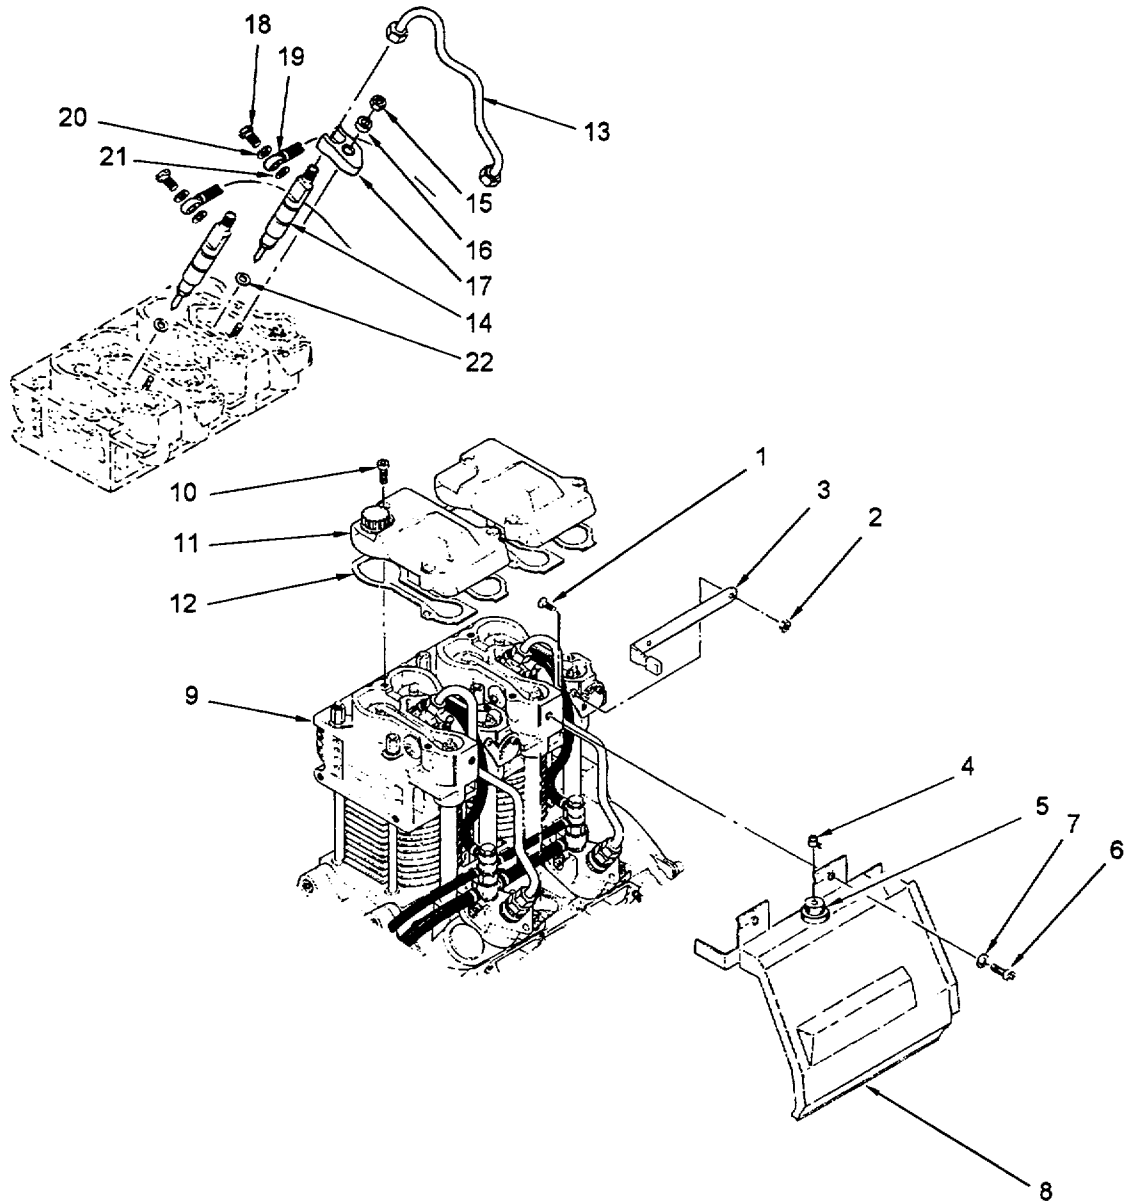
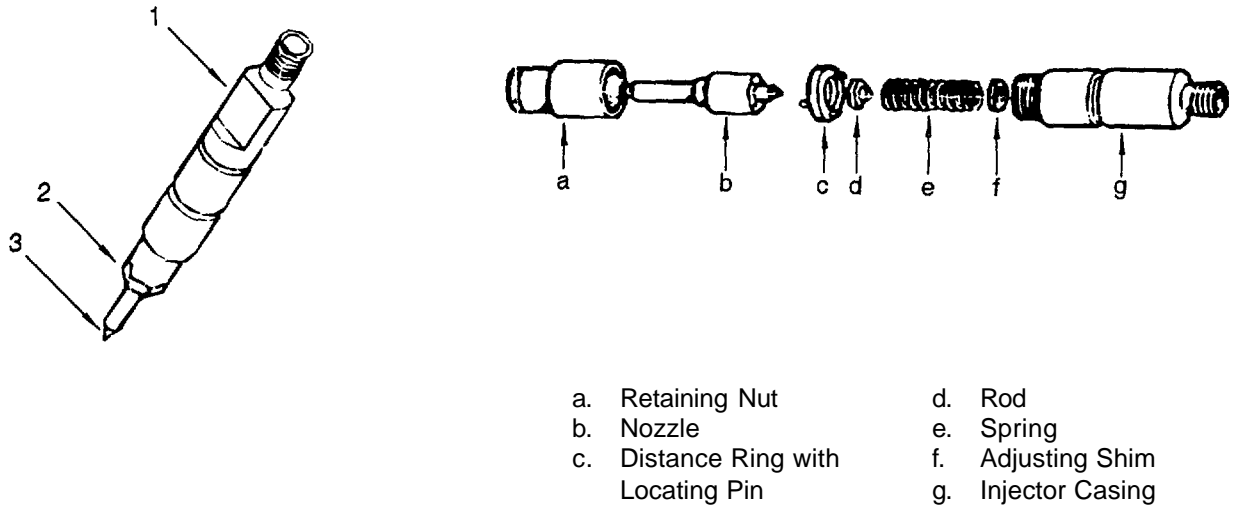

Figure 4-19. Fuel Injector Removal
Figure 4-20. Fuel Injector Nozzle Cleaning
- a. Removal. (Refer to figure 4-19.)
- (1) Remove screws (1) and nuts (2) from decompression lever (3).
- (2) Remove cable clamp (4) from fuel flow solenoid wire cable at black start control knob (5).
- (3) Remove two socket head cap screws (6) and washers (7) securing cylinder casing (8) to cylinder heads (9).
- (4) Remove three socket head cap screws (10) from valve cover (11). Remove cover and gasket (12). Discard gasket (12).
- (5) Remove any remaining gasket material from the valve cover (11) and cylinder head (9).
- (6) Disconnect and remove fuel feed line (13) between fuel injector pump and fuel injector (14).
- (7) Remove brace nut (15), washer (16) and brace (17) from mounting stud.
- (8) Raise injector to access union bolt (18). Remove bolt, union (19) and washers (20) and (21). Discard washers (20 and 21).
- (9) Remove fuel injector. If copper washers (22) come out with fuel injector, remove and install in cylinder head.
- b. Clean Injector. (Refer to figure 4-20.)
- (1) Clamp inlet end (1) of injector in vise.
- (2) Loosen retaining nut (2) on injector nozzle.
- (3) Carefully disassemble injector, noting order of components for reassembly.
- (4) Using a 0.01 in. (0.25 mm) steel wire, clean the four nozzle tip holes (3). Inspect holes for wear or out-of-round condition. If holes are badly deformed, replace injector.
- (5) Blow out interior of injector to remove any debris.
- (6) Assemble injector components in order noted during disassembly.
- (7) Torque nozzle retaining nut (2) to 25 ft lb (34.3 Nm).
- c. Installation. (Refer to figure 4-19.)
- (1) Install and tighten union bolt (18), union (19) and new copper washers (20 - thick) and (21).
- (2) Position fuel injector (14) in cylinder head.
- (3) Install and tighten brace (17), washer (16) and nut (15) on mounting stud.
- (4) Install and tighten fuel supply line (13) on fuel injector.
- (5) Position gasket (12) on cylinder head.